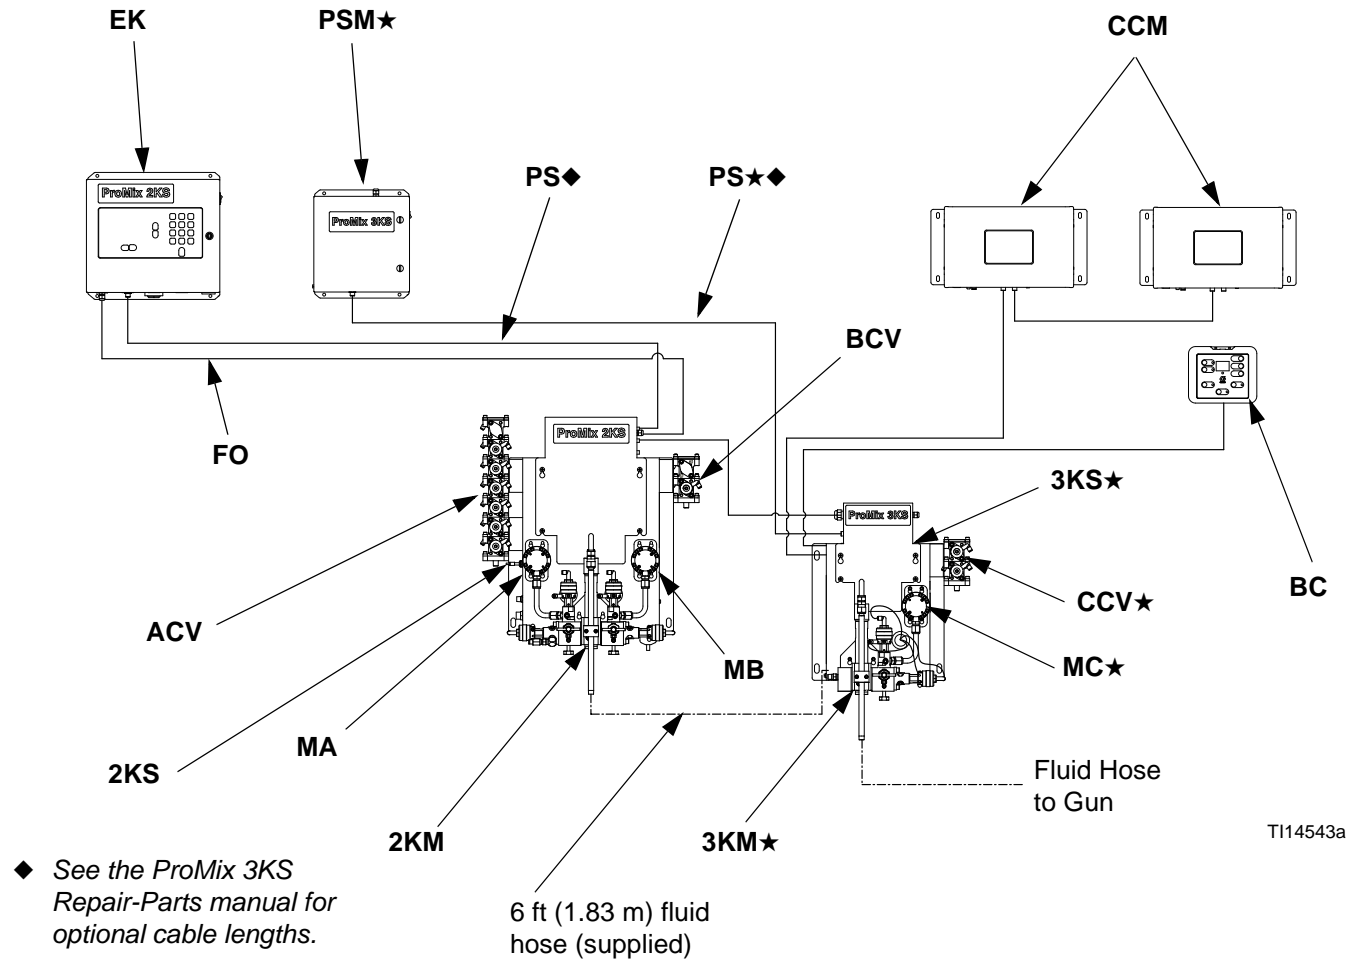

FIG. 2. Manual System Shown, with G3000 Meters, Booth Control, and Color/Catalyst/Component C Change
See FIG. 2 and Table 1 for the system components. Components marked with a star (★) are available as part of the ProMix 3KS Kit. All other components are part of the ProMix 2KS System or are available as accessories.
- FIG. 2, page 8, shows the basic components of a ProMix 3KS system. Contact your Graco distributor for actual system designs.